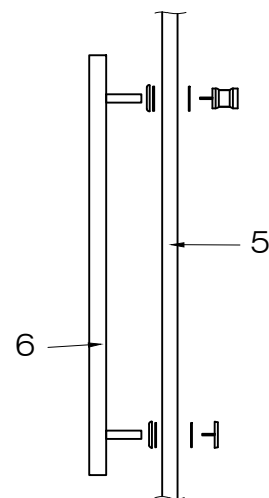

FIG. 12
2. Place the handle to the position on the door. Place plastic washers (supplied) on each side of the door. [SEE FIG.12]